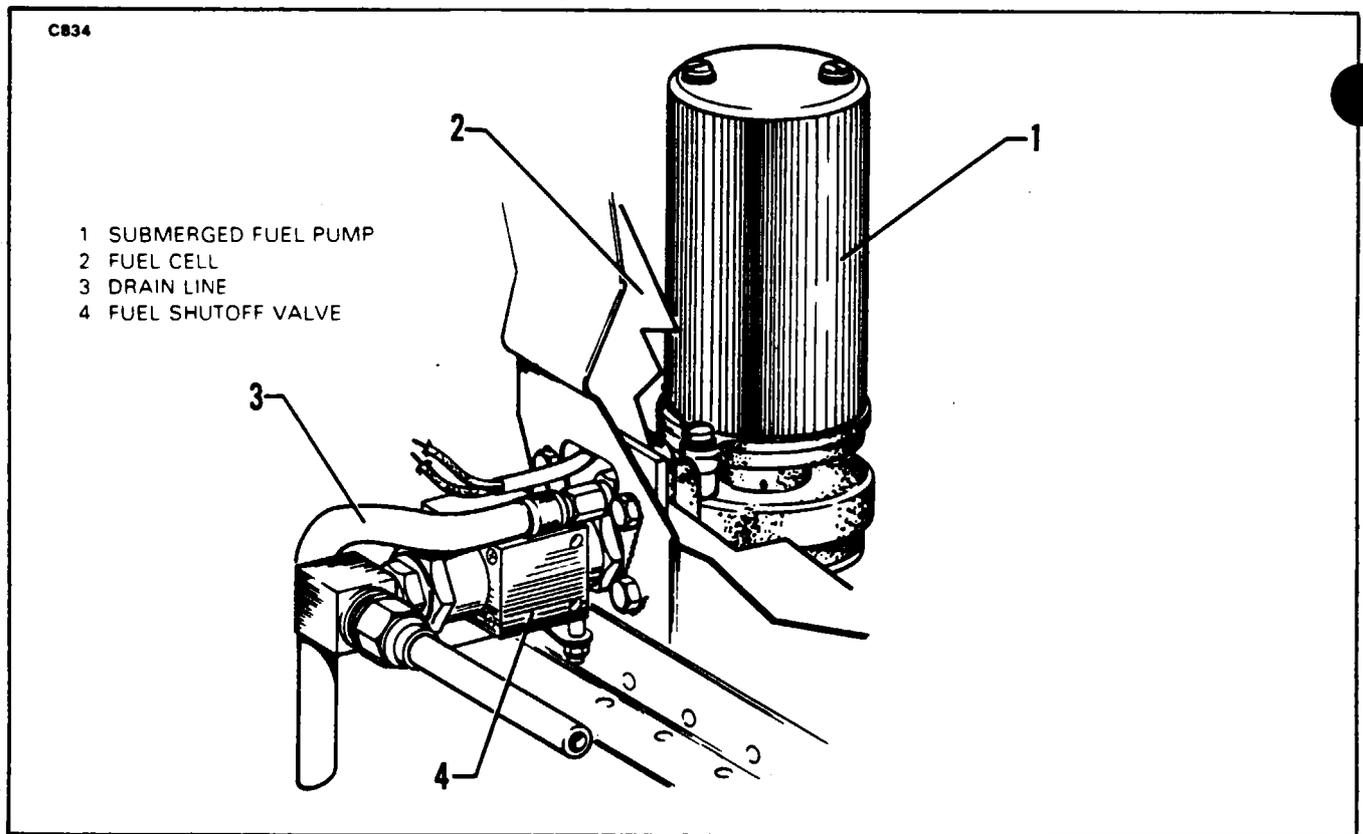

Figure 28-15. Submerged Fuel Boost Pump
#### **REMOVAL OF SUBMERGED FUEL PUMPS. (Refer to Figure 28-15.)**
**INSTALLATION OF SUBMERGED FUEL PUMP. (Refer to Figure 28-15.)**